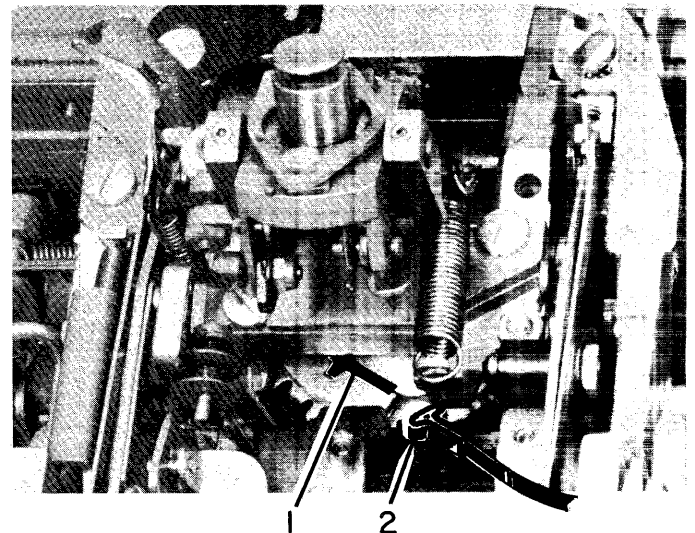

Figure 17. Rotate Tape Replacement
4. Pull the tilt ring toward the front of the machine and turn the rotate pulley until the T-slot is accessible (#1, Figure 17).
5. Insert the rotate tape, eyelet first (#2, Figure 17), between the rotate pulley and the right side of the yoke from beneath the ribbon mechanism.